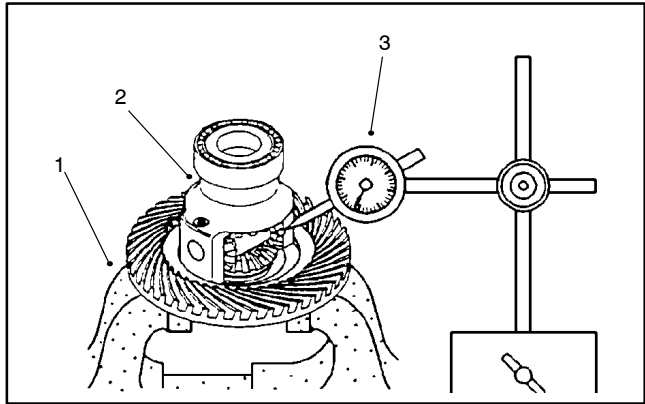

Figure 39
5. Secure the differential case in a soft jawed vise. Position a dial indicator on a tooth of the differential pinion gear. Press the pinion and side gear against the differential case and measure the pinion gear to side gear backlash (Fig. 39).